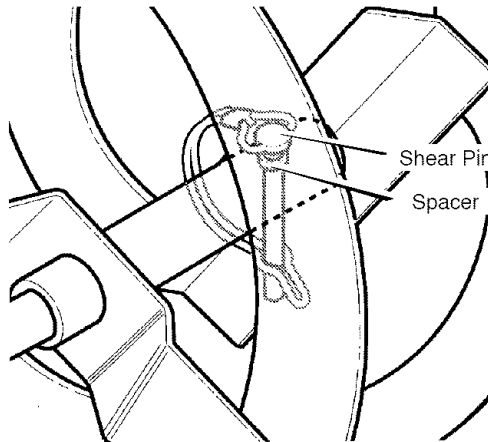

Figure 50
3. Align the hole in the auger with the hole in the auger shaft. Install the new **shear pin** and **spacer**. See Figure 50.